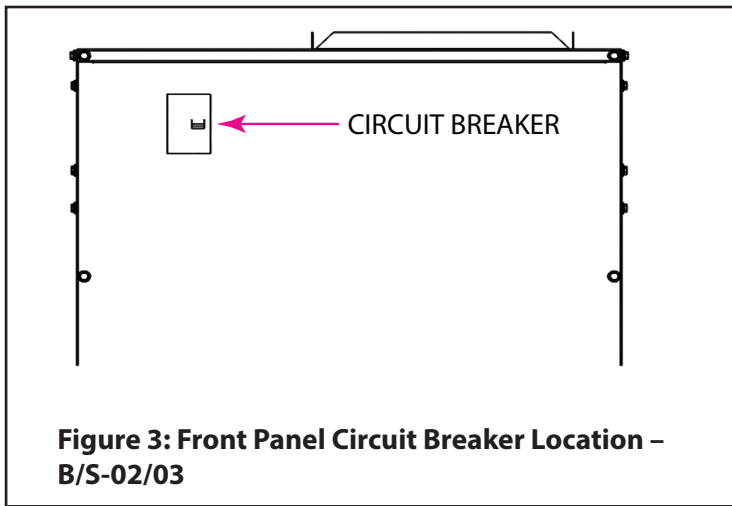

Figure 3: Front Panel Circuit Breaker Location – B/S-02/03
4. If the air handler is equipped with a circuit breaker located on the front panel, switch it to the ON position (See Figure 3).
4. If the air handler is equipped with a circuit breaker located on the front panel, switch it to the OFF position (See Figure 3).